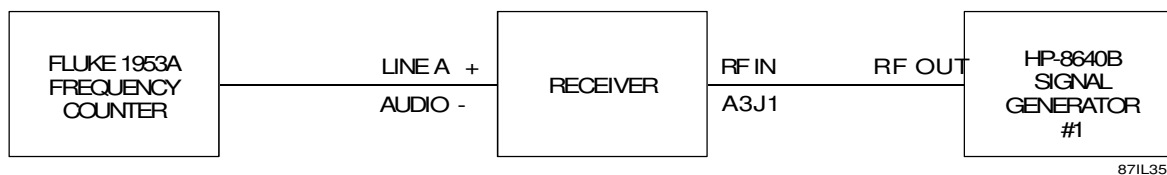

Figure 7-4. Fine Tuning Accuracy Performance Test Equipment Connection
1. Connect the WJ-8711A Receiver and test equipment as illustrated in **Figure 7-4**.